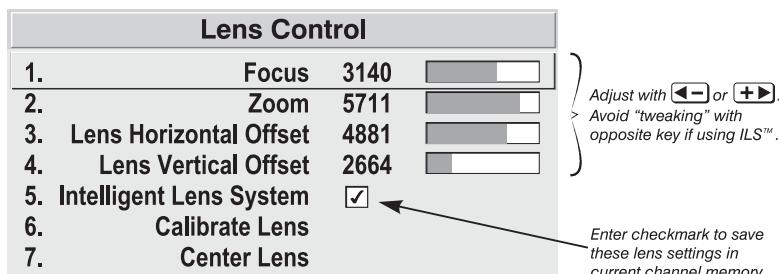

Figure 2.26. Lens Settings and the ILS™
- Try to release the **[←]** or **[→]** key **before** reaching a desired lens setting, then continue as necessary with small incremental adjustments **in the same direction**. If you “overshoot” slightly, do not reverse and “tweak” into place unless you have overshot **beyond** the backlash zone (which can vary from 10 to 600 increments, depending on the function). Otherwise, the **ILS™** function will not recognize the final “tweaked” value when you return to this channel, and lens performance will appear inaccurate. In general, use small “incremental” fine-tuning only if the direction of lens movement has not changed during an adjustment. See Figure 2.26.